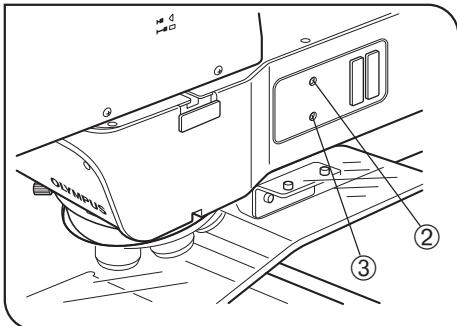
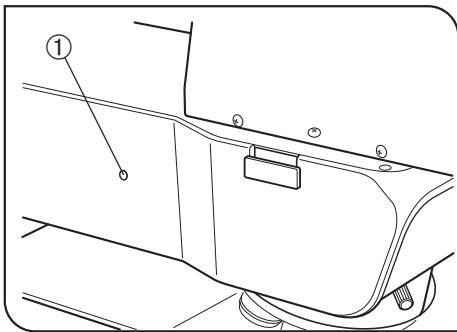

Fig. 30
Fig. 31
4. If the center of the aperture iris diaphragm is deviated, use the Allen screwdriver provided with the microscope to loosen (by 1 turn or 2) the aperture iris diaphragm clamping screw ① (Fig. 31). Then insert the Allen screwdriver into the aperture iris diaphragm centering screws ② ③ and turn the screws to center it. (Fig. 30)
5. Tighten the aperture iris diaphragm clamping screw ①.